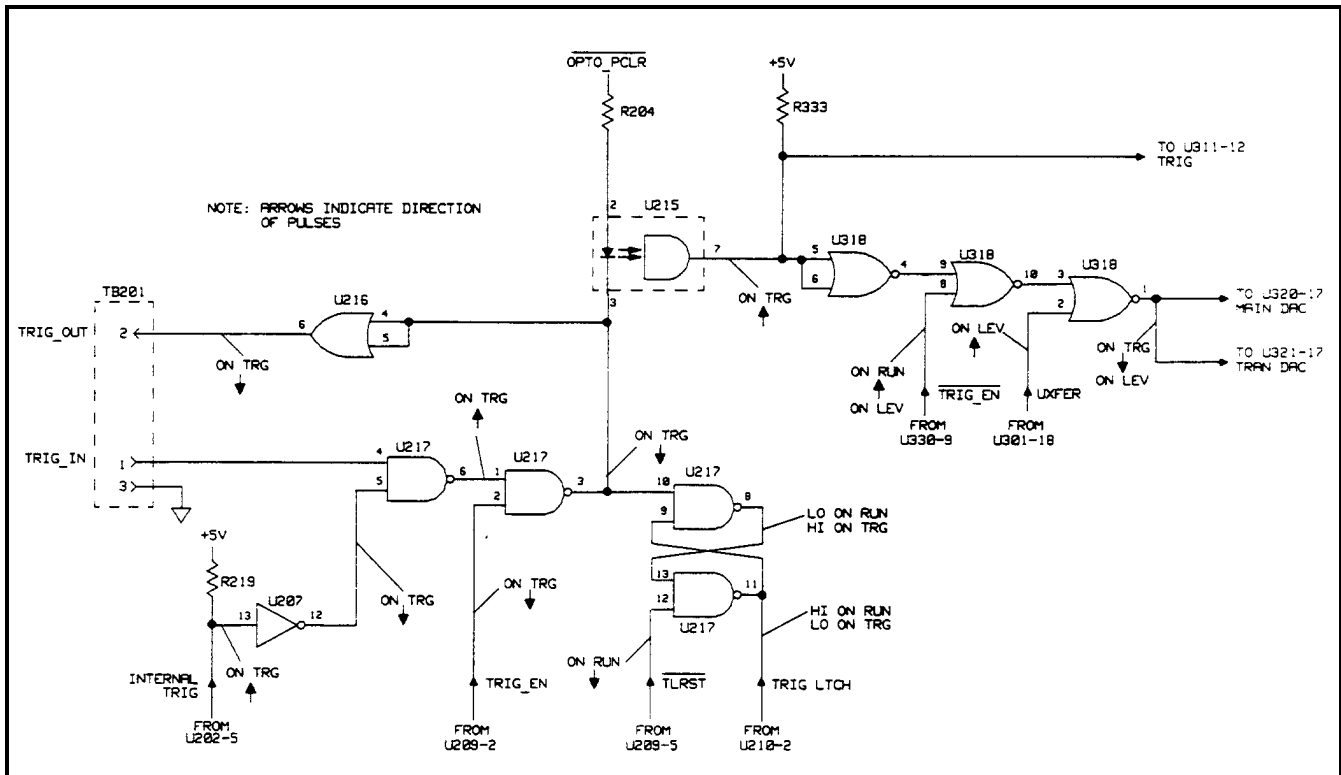

Figure 3-8. Trigger Circuit Troubleshooting
**Trigger Circuit Troubleshooting (Figure 3-8)**
The Electronic Load can receive an internal trigger (command via the GP-IB) or an external trigger signal (TRIG\_IN via connector TB201). Either trigger can be used in triggering a preset level (current, voltage or resistance value) or in triggering a pulsed or toggles transient operation. Troubleshooting the trigger circuit consists of running programs that generate trigger pulses and then making sure that the signal lines shown in Figure 3-8 toggle in the direction indicated. If a signal line does not toggle where indicated, the gate or IC that generates that signal is probably defective.
The arrows on Figure 3-8 indicate the signal line activity when using a logic probe and running the programs. Connect TP201-4 to TP301-2 (see Figure 3-2) before troubleshooting this circuit. This provides a common ground across isolation for the logic probe.
The first program continuously toggles all signal lines labeled ON\_TRIG when the program is run. Use the logic probe to confirm this (see Figure 3-8).
The second program is used to toggle the lines labeled ON\_LEV and ON\_RUN as well as the ON\_TRIG lines on Figure 3-8 when the program is run. However, the lines do not toggle continuously as in program 1, but only at specific points in the program. The ON\_RUN signal lines toggle once at the beginning of the program. The ON\_TRIG lines all toggle when CONTINUE is pressed after the first pause in the program. The ON\_LEV lines all toggle when CONTINUE is pressed after the second pause in the program.